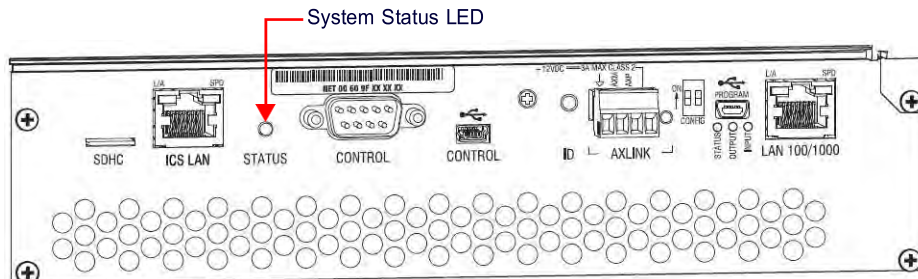

FIG. 152 System Status LED
14. Check the Status LED on the CPU for indications of normal display (FIG. 152):